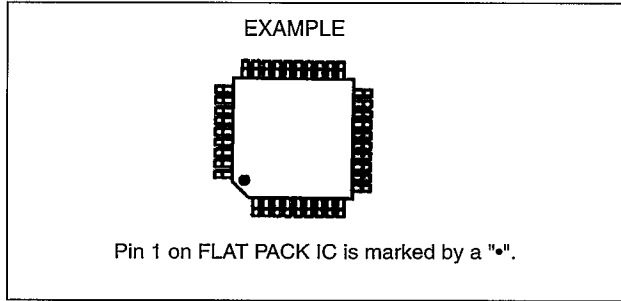

Fig. 2-9
- b. The "•" mark on the Flat Pack IC indicates pin 1. Make sure this mark matches the 1 on the P.C.B. when positioning for installation. Then pre-solder the four corners of the Flat Pack IC. (see Fig. 2-9).